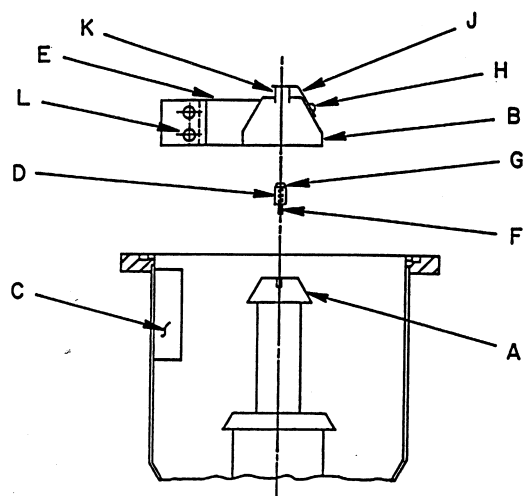

Figure 3-2 VHS-250 Cold Cap Removal/Installation
1. Remove the spring (J) attached by the 6-32x3/16 round head screw (H), a flat washer and a lock washer (Figure 3-2).
2. Loosen the nuts (L) holding the cold cap bracket (E) to the copper bar (C) and remove the cold cap (B) from the top of the jet cap (A).
3. Unscrew the no. 8-32x1/4 socket head cap screw (G) from the top of the ceramic standoff (D).
4. Remove the ceramic standoff (D) and the no. 8-32x1/2 stud (F).